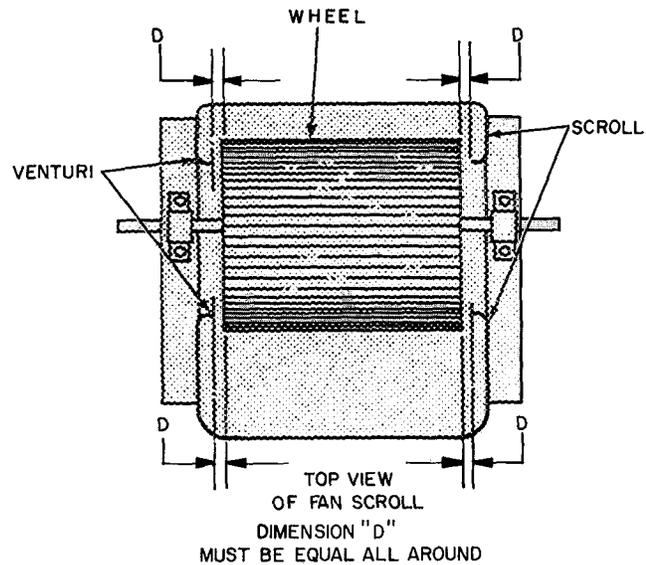

Fig. 9 – Horizontal Wheel Centering
HORIZONTAL WHEEL CENTERING – All wheels must be horizontally centered between the inside edges of their respective fan scroll venturi (Fig. 9). To adjust individual wheels:
2. Center wheel by sliding horizontally (Fig. 9).
2. Slide shaft and wheel assembly horizontally until wheels are horizontally centered (Fig. 9).